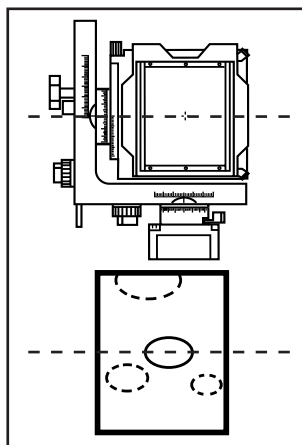

図2 Fig.2
2. Then, lower the camera back using the normal fall control on the L Standard to 30mm below the zero position. The tilt axis has therefore been lowered and placed where it is needed for making the tilt adjustment. (Since the normal range of rise and fall is 30mm each side of the zero point, if for instance 40mm of drop is required, this can be achieved by dropping the rear frame by its full 30mm and rising the front frame by 10mm making a total difference of 40mm. (fig.2)